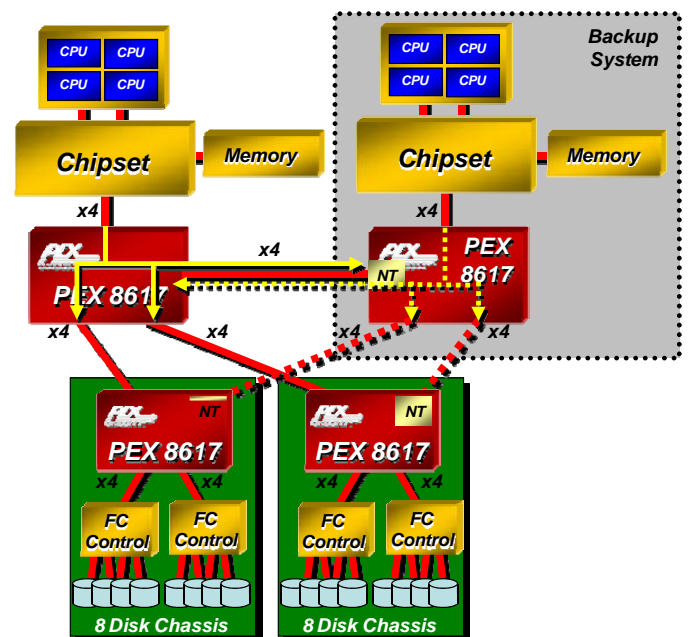

Figure 6. Dual Cast in Storage Systems
The PEX 8617's Dual Cast feature proves to be very useful in storage systems. In the example shown in Figure 6, the Dual Cast feature enables the PEX 8617 to copy data going to its two downstream ports to the backup system and vice versa (see yellow traffic patterns) in one transaction as opposed to having to execute two separate transactions to send data to the redundant chassis. By offloading the task of backing up data onto the secondary system, processor and system performance is enhanced. Non-Transparent (NT) ports are used to isolate the host domains of the backup system from the primary system.